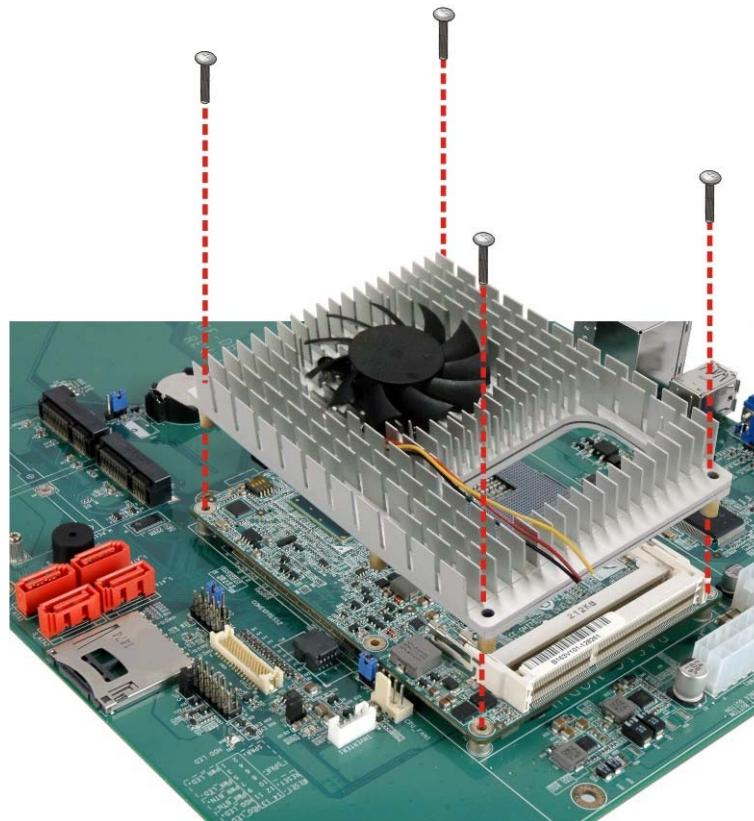

Figure 4-7: Secure the Heatspreader Plate with the Cooling Kit to the Baseboard
Step 3: Place the heatspreader plate with the cooling kit on the ICE-QM770, aligning the retention screw holes (**Figure 4-7**).
Step 4: Secure the heatspreader plate with the cooling kit onto the baseboard with the supplied retention screws (**Figure 4-7**).